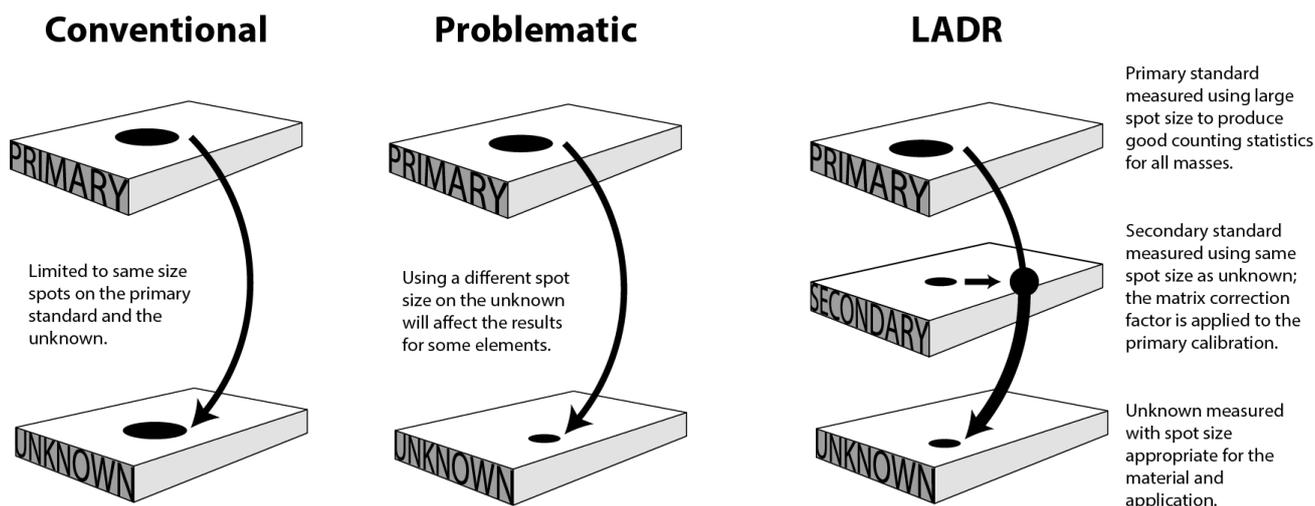

Figure 35: Use of secondary standards to compute matrix correction factors.
**Example:** *During an analytical session the same matrix (e.g., the same material, mineral type, etc.) was analysed in the ‘Spot Mode’ (refer to the “LogBook” chapter for a description of different analytical modes supported by LADR) using a range of laser beam sizes (“spot sizes”). Such an approach may be needed when analysing samples with different grain sizes from the matrix of interest so as to avoid using the smallest spot size on all grains. The well-known spot size dependence of the extent of elemental fractionation during LA-ICP-MS would require that analyses performed at different spot sizes are quantified using different calibrations. LADR offers an approach to quantification which allows for all such analyses to be quantified on a single “primary calibration” defined using a single spot size, providing that the secondary RMs have been analysed at the same spot sizes as the unknowns. This involves applying corrections to the primary calibration based on the analyses of the secondary RMs. LADR would automatically match analyses of secondary RMs with analyses of unknowns performed at the same spot sizes using matching masks specified within a QS. See Figure 35.*